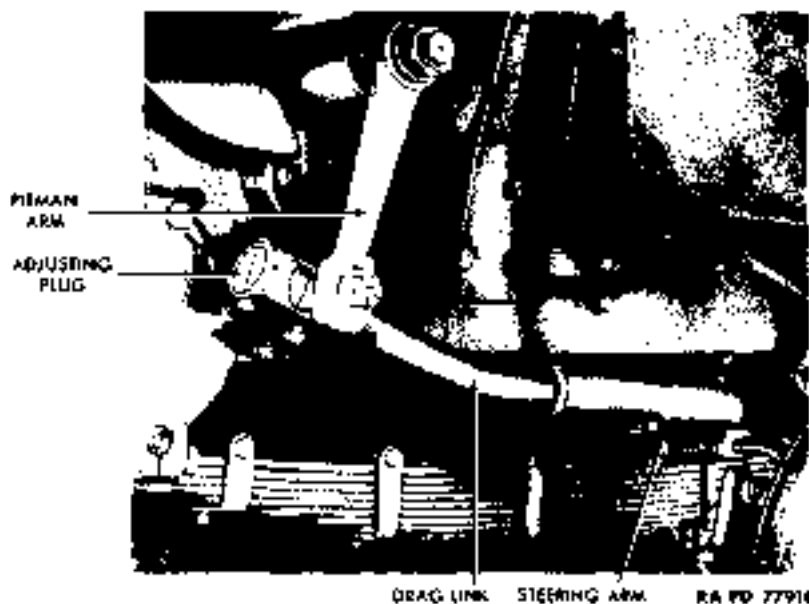

Figure 89 — Drag Link Installed
(3) **ADJUST DRAG LINK END PLAY** (fig. 89). Remove the nut, lock washer, and bolt from adjusting plug at the end of drag link where adjustment is to be made. Screw in adjusting plug until slack is removed. Do not tighten more than necessary. Install bolt, lock washer, and nut which keep adjusting plug from turning.
#### 142. DRAG LINK (fig. 89).
#### 143. PITMAN ARM (fig. 89).